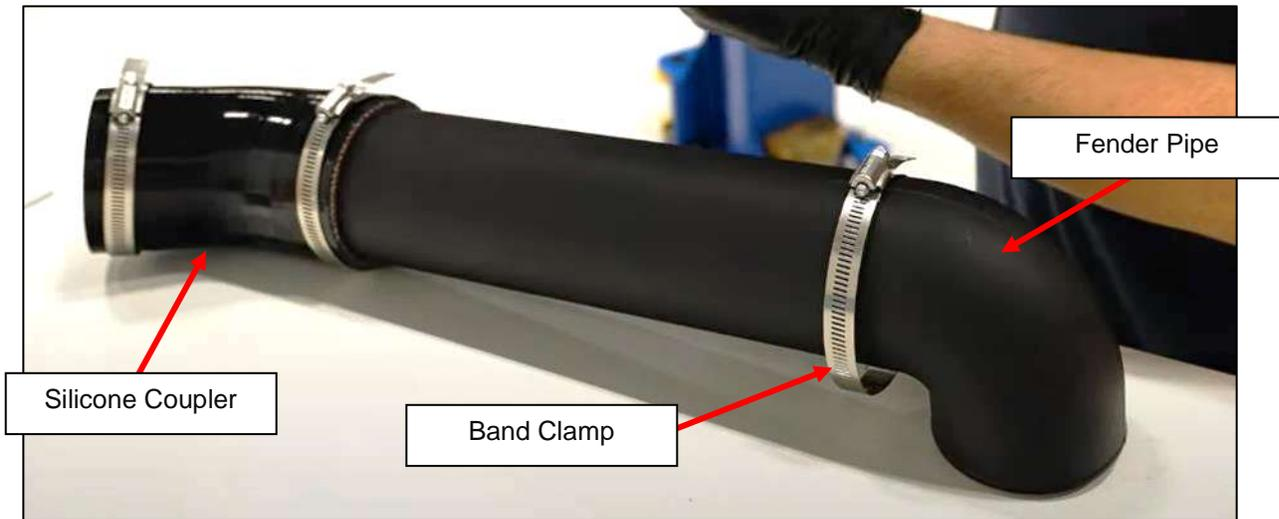

Figure 16
- 26. Locate the Fender Pipe, Silicone Coupler and (3) three Band Clamps. Install the Silicone Coupler onto the Fender Pipe, and loosely secure with one Band Clamp. Loosely install one more Band Clamp on each side of the assembly as shown below. *Figure 16.*